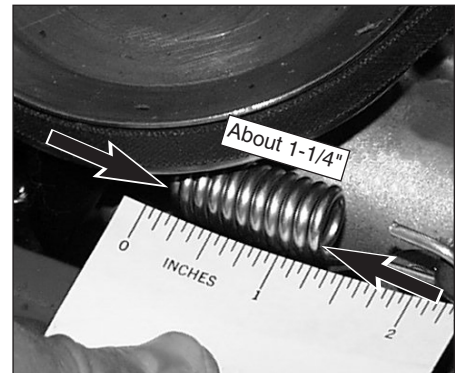

Figure 5-10: Second measurement with drive clutch spring engaged.
3. Engage the Wheel Drive Control Bail and measure the extended length of the spring body again (Figure 5-10).